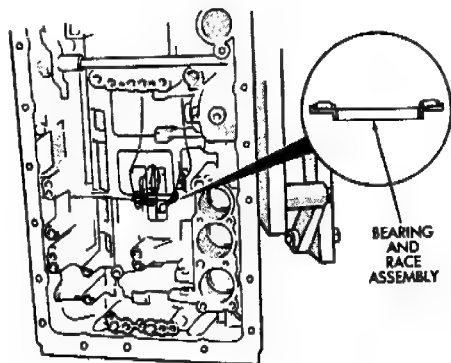

Fig. 2 Removing/Installing Bearing And Race Assembly
- (1) Remove bearing and race assembly from transmission case (Fig. 2).